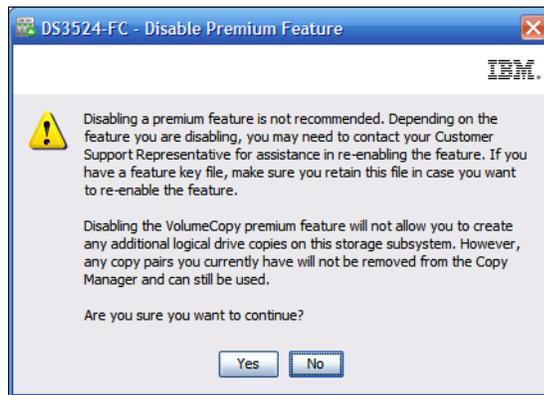

Figure 1-7 Disable premium feature confirmation
3. The **Disable Premium Feature** confirmation window shown in Figure 1-7 is displayed. Read the information and then click **Yes** to disable the premium feature.